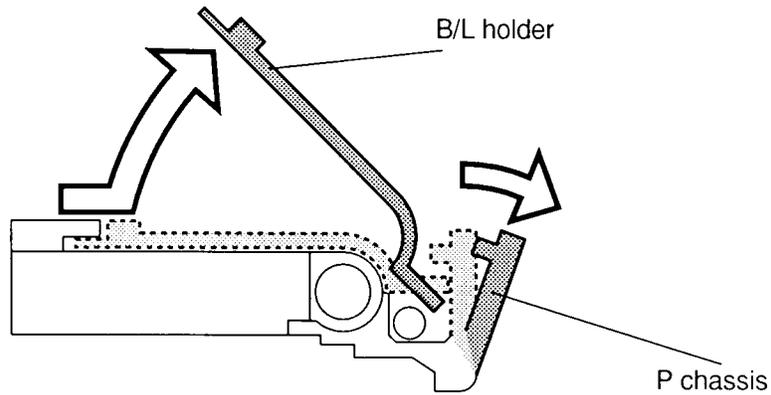

Figure 4-27 Disconnecting the B/L holder
9. Slip your finger under the P chassis and release the latch securing it to the **B/L holder**. Gently hold down the LCD module and lift one side of the **B/L holder** as shown in figure 4-27. As you lift the B/L holder the P chassis securing the holder will rotate out.
- When the **B/L holder** is free, lift it out. Be careful not to lift the **B/L holder** too high or apply pressure to the **P chassis** (figure 4-27).